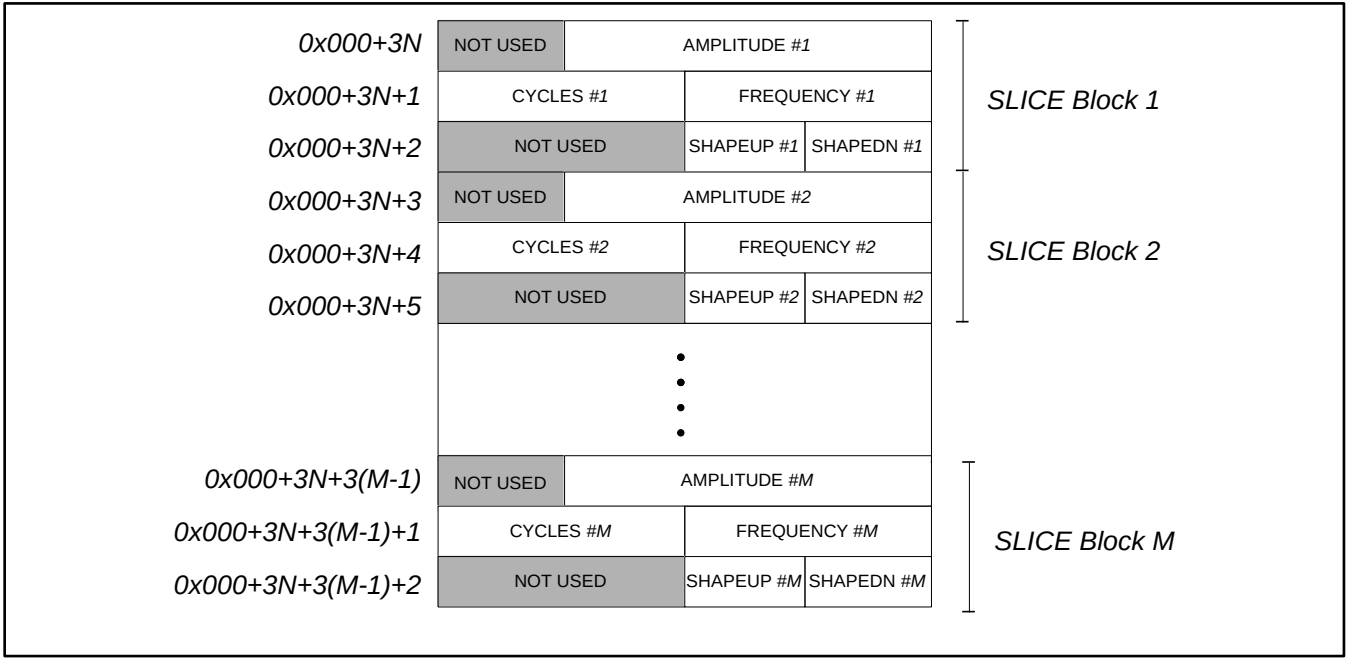
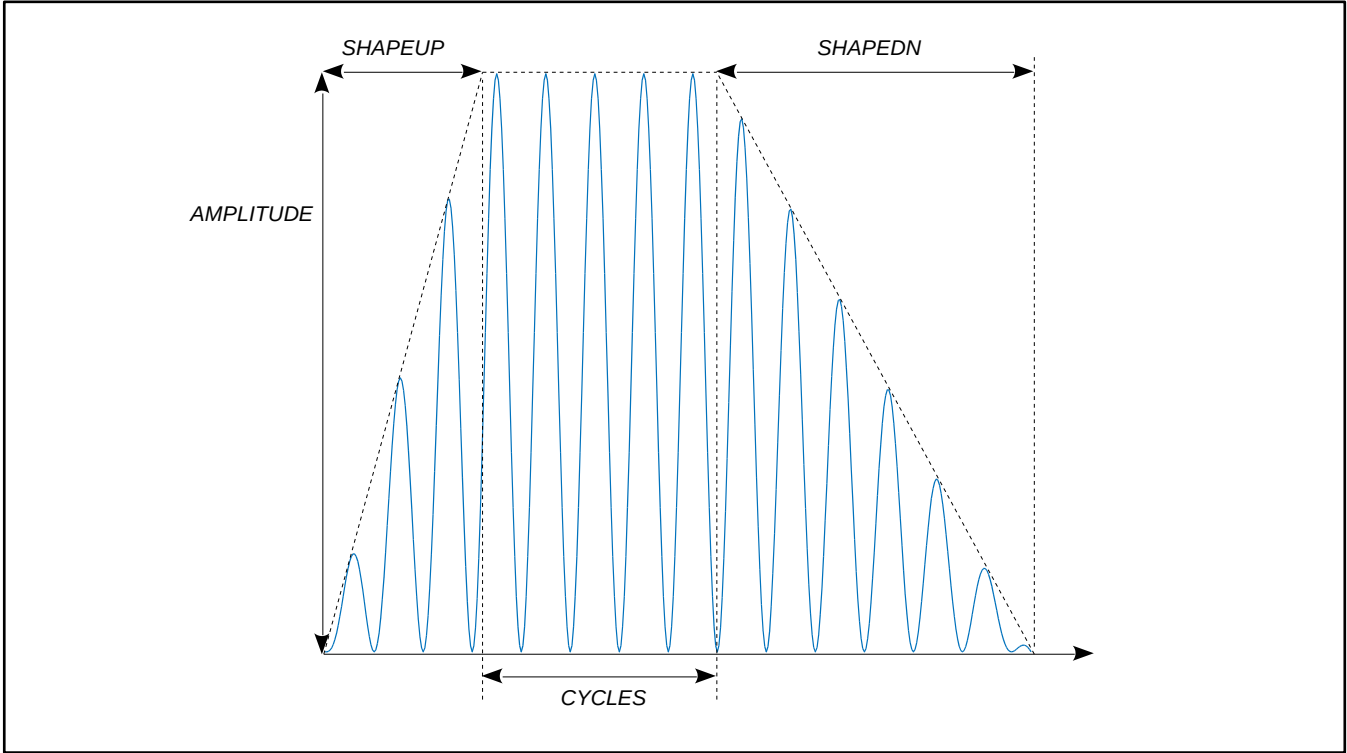

Figure 16:  $M$  SLICE blocks in RAM preceded by  $N$  WAVE blocs
Figure 17: Sine wave SLICE parameters illustration
- 1) SLICES, written in RAM using the RAM SYNTHESIS WRITE command. Each SLICE contains a group of parameters used to produce a sine wave of defined amplitude, frequency, and number of cycles. It may also be ramped up and down (as shown in Figure 17). See section 6.8.1.1 for more details.
SLICE blocks in RAM contains the parameters used to synthesize sine waveforms. Each SLICE block contains three words grouping five parameters as described in Figure 16 and Table 13. The Figure 17 illustrates how SLICE parameters shape a SLICE waveform. Many SLICES may be successively played to form complex waveforms.